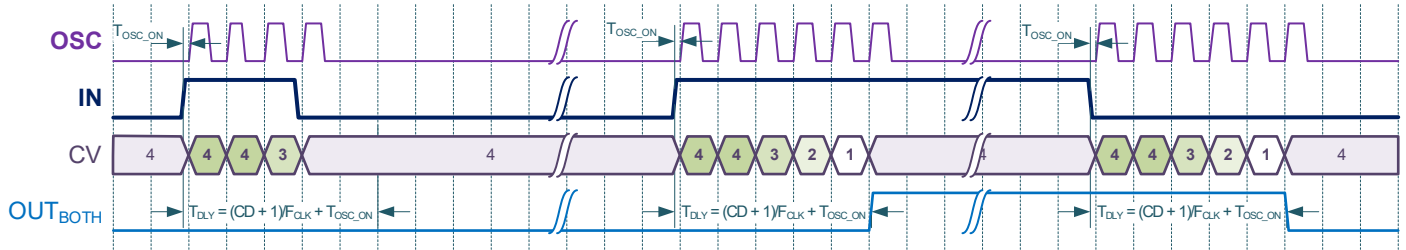

Figure 9.6. Delay Mode Timing Diagram (Both Edge Detect, Auto OSC)
- Delay (Figure 9.1...Figure 9.6)
In the Delay mode the TMR delays the input signal by the selected edge event (rising edge, falling edge, both edges) for a time determined by the Control Data, input clock signal and selected divider value. If input signal is shorter than the delay value, the signal does not propagate to the output. The timing diagrams of this mode is shown in the Figure 9.1...Figure 9.6.